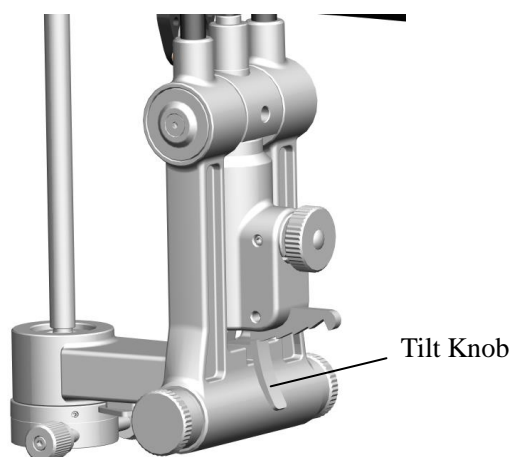

Figure 3.4.5
5. Tilt the illumination light. When using a contact lens and using a slit section view or fundus examination, oblique illumination is required. By pressing down on the tilting lever, the lighting components can be tilted from 5 to 20 (every 5th gear) (see Figure 3.4.5). **Since this method may touch the patient's head, be careful.**